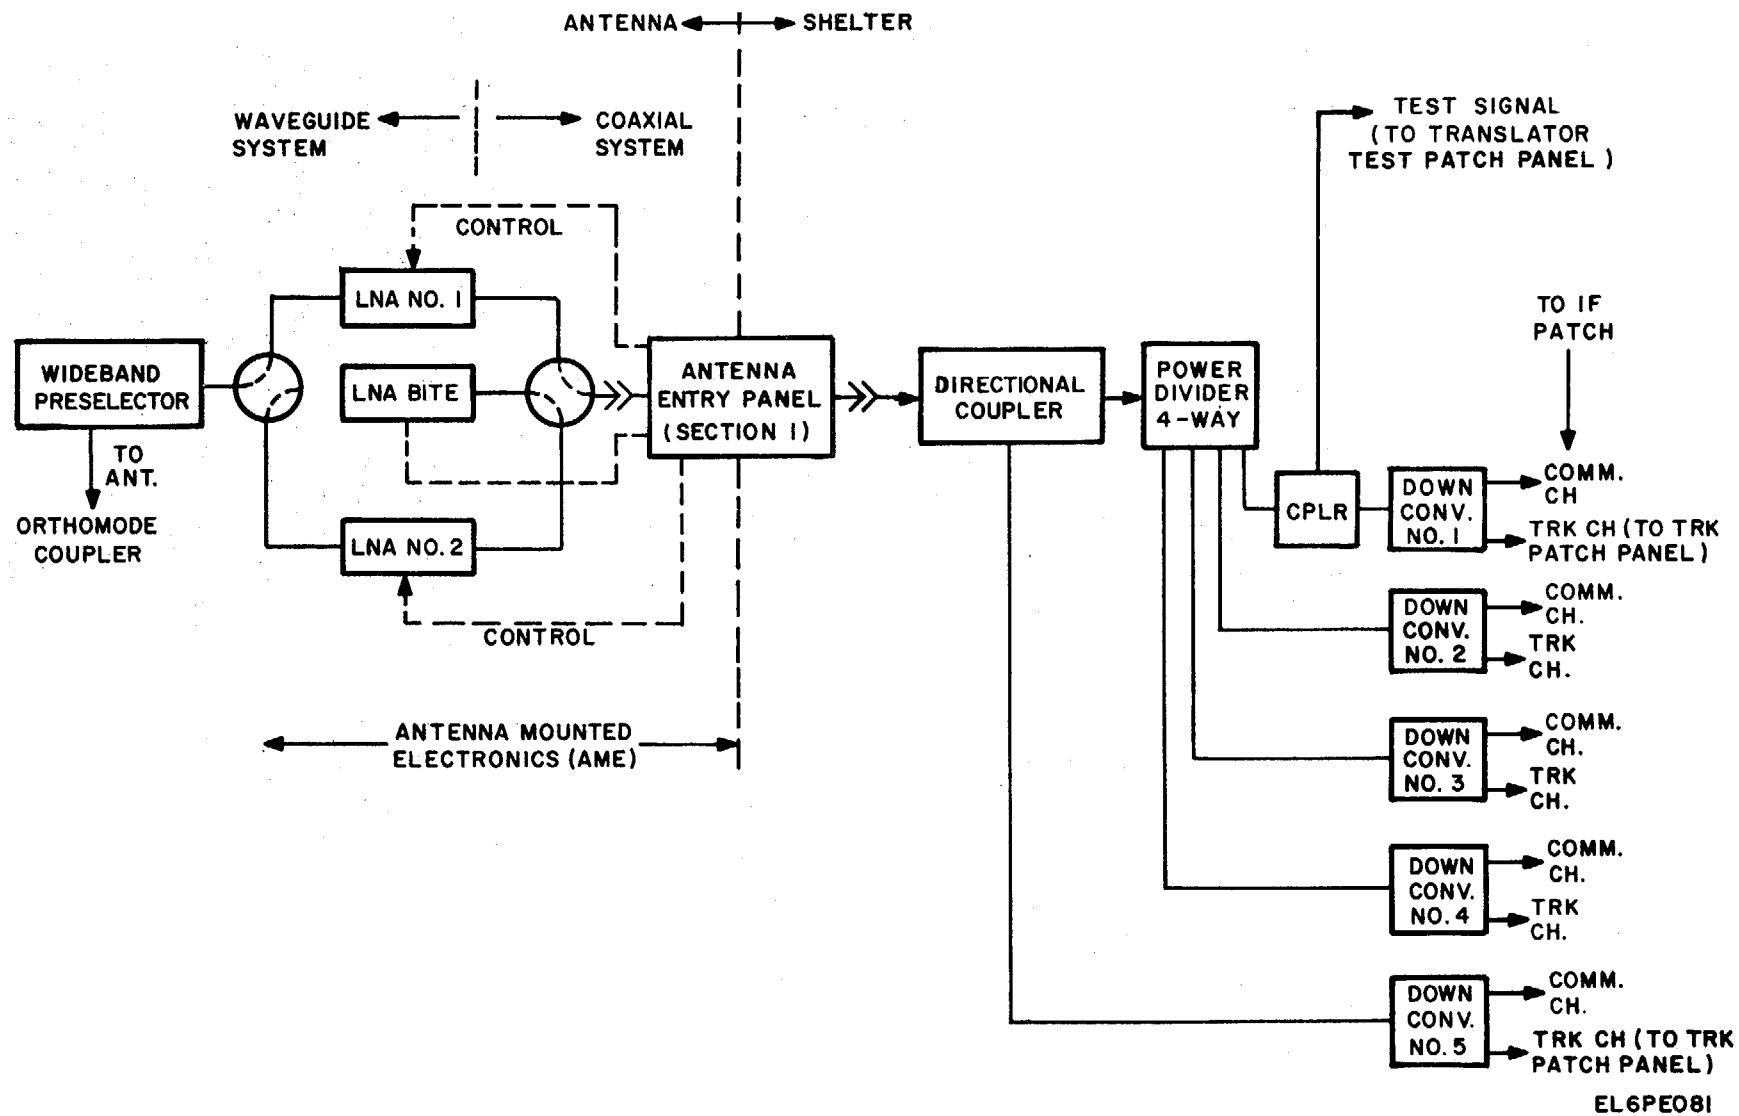

Figure 1-4. Receiver Section Block Diagram.
(2) On the transmitter side of the radio set, the 70 MHz input to the on-line upconverter is translated to 700 MHz. After amplification and filtering, the 700 MHz is translated to the transmit output frequency of 7.9 to 8.399999 GHz.
(3) The output of the upconverter is filtered and amplified by a solid state intermediate power amplifier to a level suitable for driving either the amplifier/mixer or the power amplifier. The upconverter drawers contains an upconverter, frequency synthesizer, intermediate power amplifier and power supply.
(4) If a single carrier is to be transmitted, the output of the on-line upconverter drives the on-line power amplifier. The power amplifier is a five cavity Klystron amplifier tunable over the 500 MHz transmit band with five calibrated tuning adjustments accessible through a small door in the front panel. The output of the power amplifier goes to the antenna " through a manual waveguide switch which is used to select the on-line and off-line unit. Power from the offline unit is routed to a dummy load.
(5) If multiple carriers are to be transmitted, the output of each on-line upconverter is routed to the online amplifier/mixer unit. This unit is used to set the relative power levels of the carriers and reamplify the combined signal to drive the on-line power amplifier.
(6) The off-line power amplifier is terminated in a dummy load allowing the unit to be turned on and monitored. Each power amplifier has a high efficiency switching converter, high voltage power supply and complete monitoring capability. The output of the online power amplifier is then routed to the transmit port of the antenna for transmission to the satellite.
b. Receive Section. Figure 1-4 shows a functional block diagram of the receive section of the terminal.